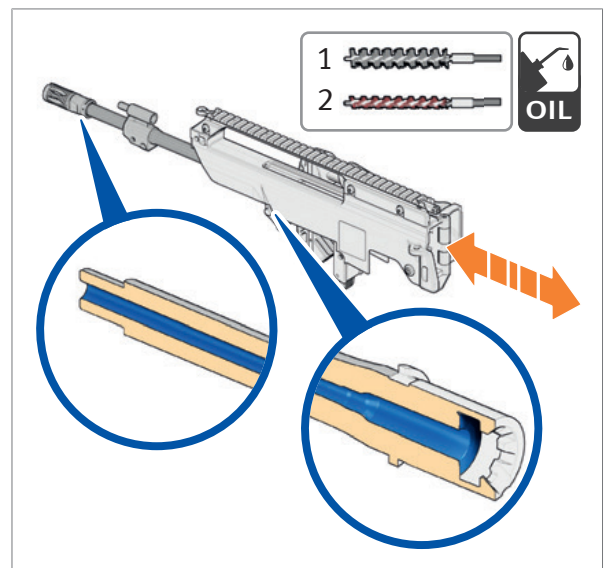

Fig. 110: Clean barrel
6. Pull oil-lubricated oil brush through barrel (*Fig. 110*).
13. Pull oiled barrel cleaning brush through the barrel several times (Fig. 110).